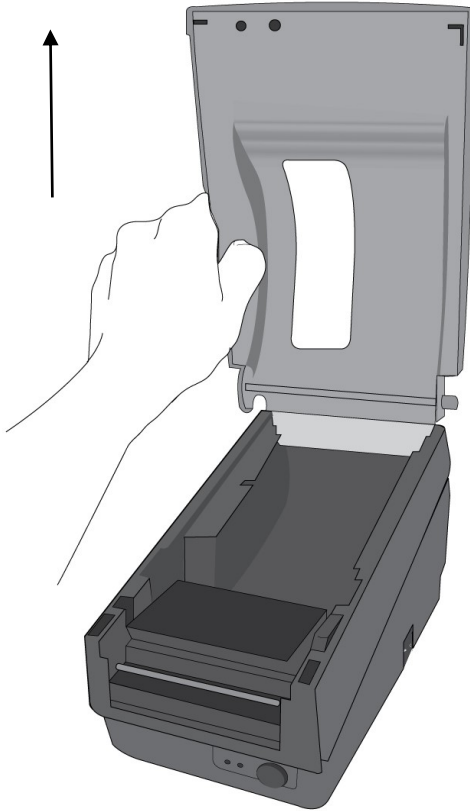

Figure 6.1
6. Release the two screws at the bottom of the base housing shown in Figure 6.1 to 6.3.